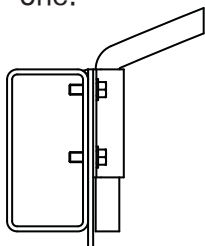

Figure 15
3) Figure 15. Position bracket and bow as shown to reduce tarp wear.